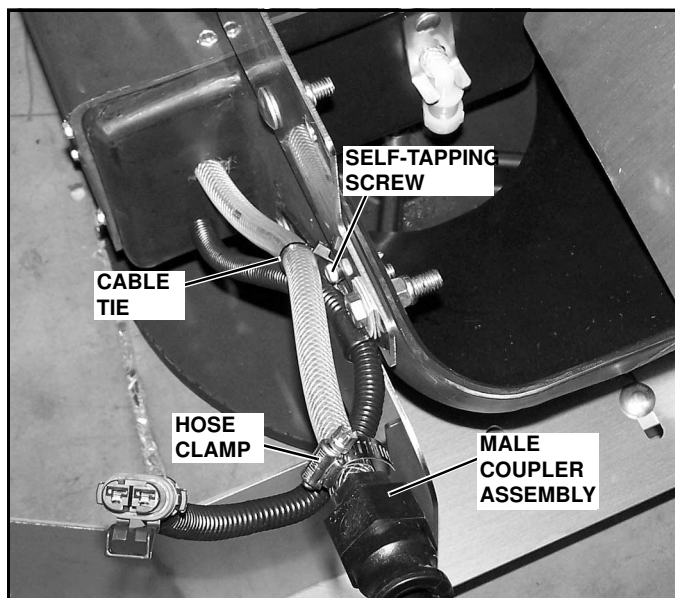

Figure 1-16
18. Fasten the 8" mountable cable tie to the top of the chute with the #10-16 x 1" self-tapping screw. (See Figure 1-16)
19. Slide on a hose clamp. Insert the male coupler assembly into the open end of hose, then secure with the hose clamp. (See Figure 1-16)